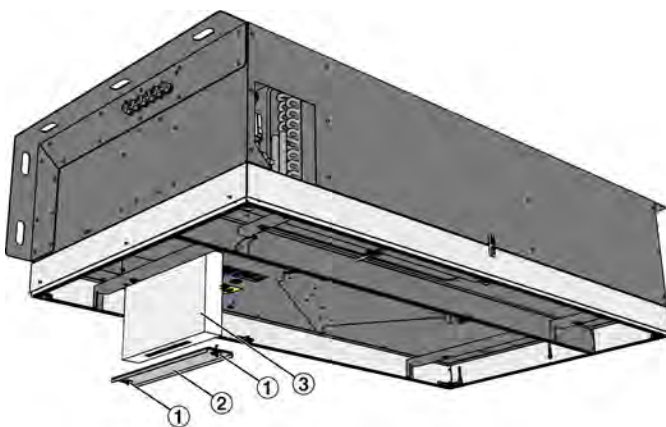

Fig. 74: Fine dust filter
3. ▶ Open the turn fasteners (Fig. 74 /1) with a quarter turn, then remove the filter chamber cover (Fig. 74 /2).
Pull the filter (Fig. 74 /3) out of the filter chamber.
When you insert a filter, make sure that the two brackets (Fig. 74 /3) stick out from the filter chamber and that the text label is legible.